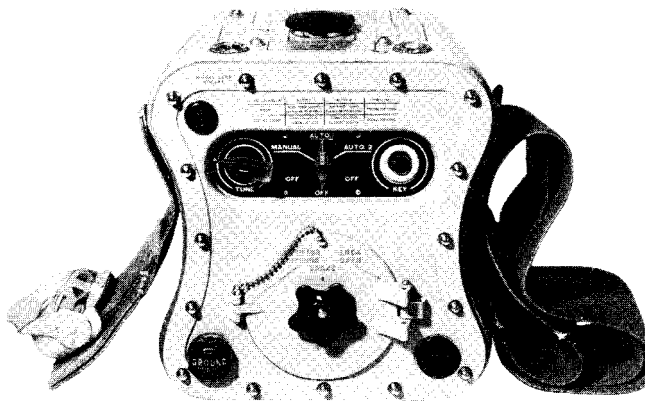

Figure 2—Radio Transmitter BC-778-E, Front View
a. RADIO TRANSMITTER — The transmitter is self-contained in a cast shell and is air tight and water-proof. (See fig. 2.) The shell is molded to the contour of the operator's legs, between which it is held for operation. The operating controls, antenna TUNE, RADIO-LIGHT selector switch, and the manual KEY